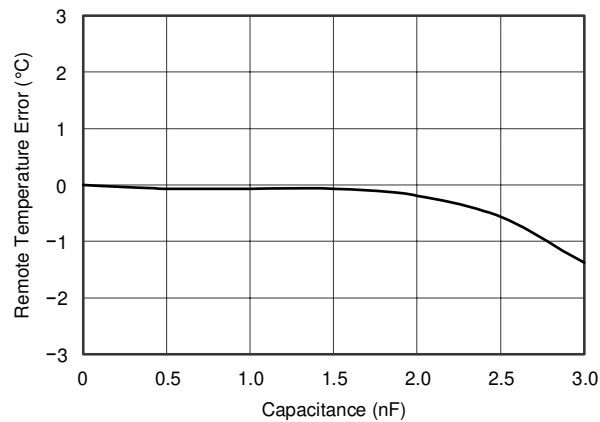
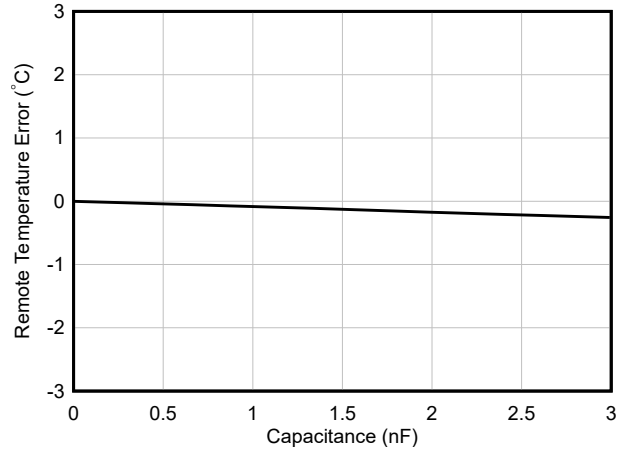

Figure 6-12. Remote Temperature Error vs Differential Capacitance (Legacy Chip)
Figure 6-13. Remote Temperature Error vs Differential Capacitance (New Chip)
- C_{DIFF} (optional) must be $< 1000\text{pF}$ in most applications. Selection of C_{DIFF} depends on specific application; see the Filtering section and Figure 6-12 (Figure 6-13 for new chip) and Figure 6-27.
The TMP411/TMP411D tolerates differential input capacitance of up to 1000pF with minimal change in temperature error. The effect of capacitance on sensed remote temperature error is shown in Figure 6-12 (Figure 6-13 for new chip) and Figure 6-27.